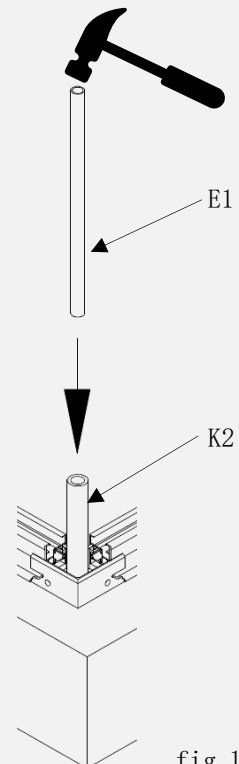

fig. 12a
- for anchoring, a stainless-steel pipe (item E1) is positioned in the PVC pipe (drilling aid) (item K2.1) and hammered into the hole. (fig. 12a)